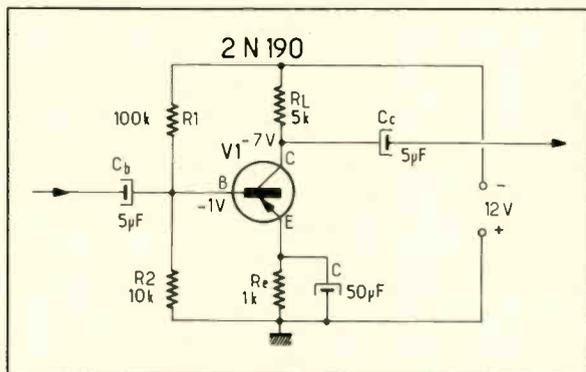

Fig. 8—CE amplifier with thermal stabilization.
the internal transistor resistances are largely temperature-variable and may lead to thermal runaway and eventually to destruction of the device. Consequently, it is necessary to choose a bias method that compensates for thermal effects. In the amplifier stage in Fig. 8, an excessive base current is provided by voltage divider R1R2, and an opposing bias is developed by emitter resistor  $R_e$ , bypassed by a suitable capacitor (C) to avoid a loss of AC signal components. This circuit yields a gain of about 172; a high load impedance, however, is required to make use of it.